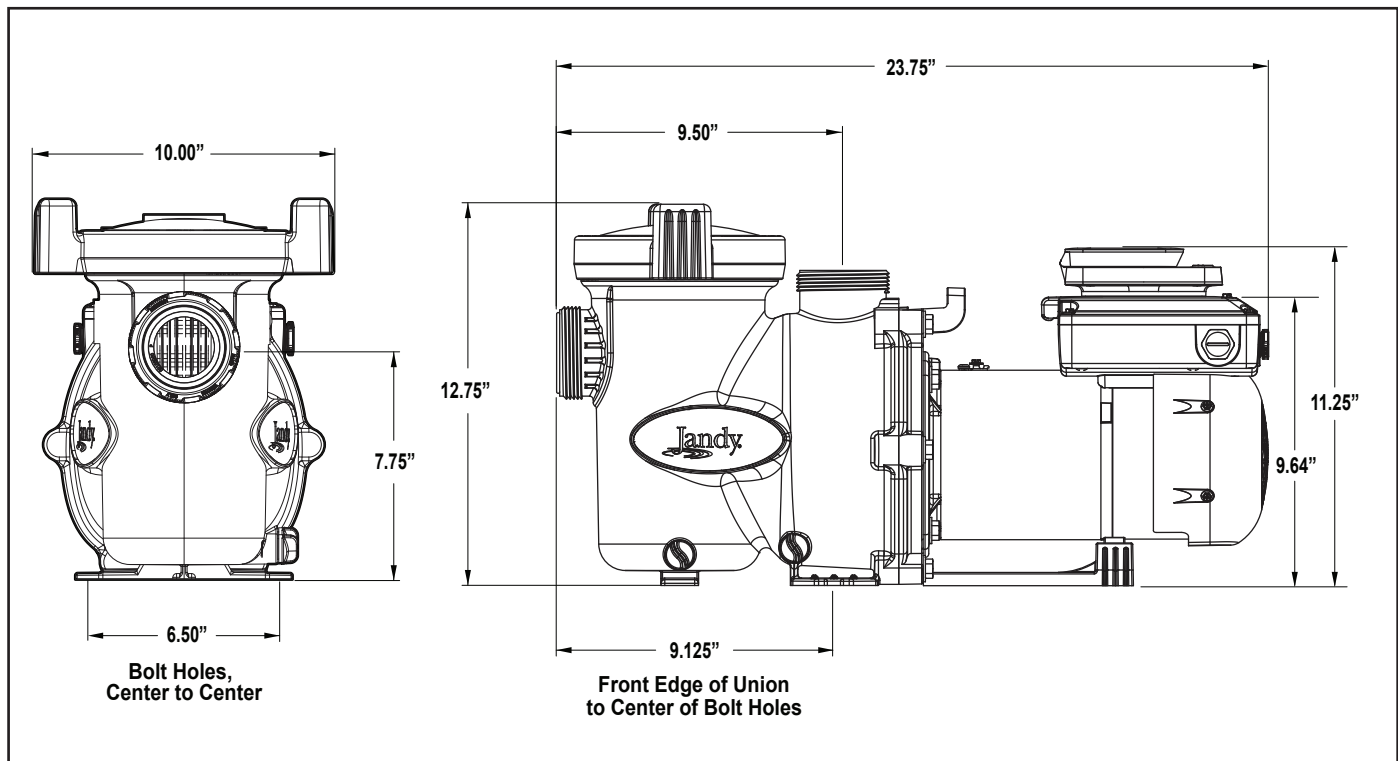

Figure 1. Variable-Speed Pump Dimensions
Number of Suction Outlets Per Pump - Provide at least two (2) hydraulically-balanced suction outlets, with covers, as suction outlets for each circulating pump suction line. The centers of the suction outlets (suction outlets) on any one (1) suction line must be at least three (3) feet apart, center to center. See Figure 1.
The system **must** be built to include at least two (2) suction outlets (drains) connected to the pump whenever the pump is running. However, if two (2) suction outlets run into a single suction line, the single suction line may be equipped with a valve that will shut off both suction outlets from the pump. The system shall be constructed such that it shall not allow for separate or independent shutoff or isolation of each drain. See Figure 1.